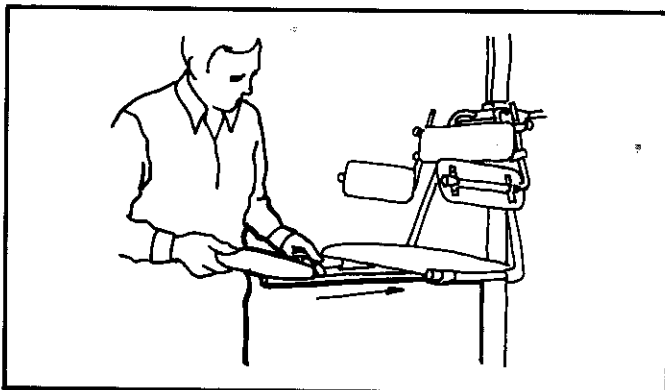

Figure 2-15
8. Install leg support by pushing free-end rods into leg support "U" brackets located on bottom of patient seat. Figure 2-15.